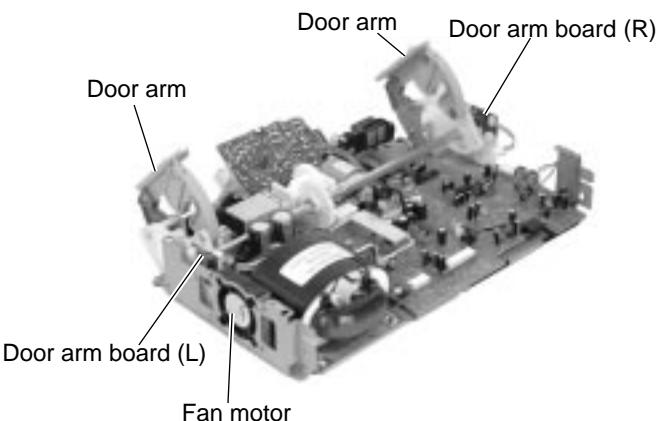

Fig.15
■Removing the door arm assembly / the door arm board (R) and (L) (See Fig.15 to 20)